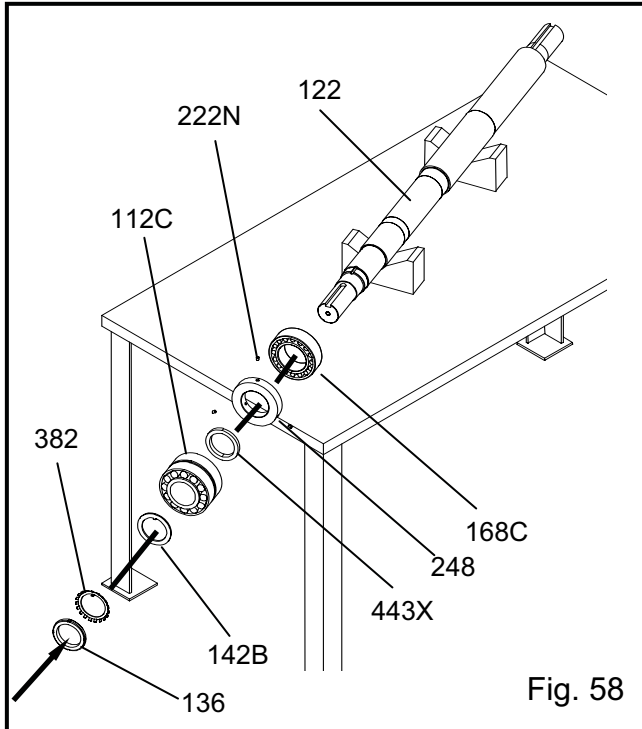

Fig. 58
- Heat the inboard radial bearing (168C) to 225°F using an induction heater. Slide the bearing onto the drive end of the shaft (122) push it on until it rests flush and square against the inboard shoulder, see Fig. 58.